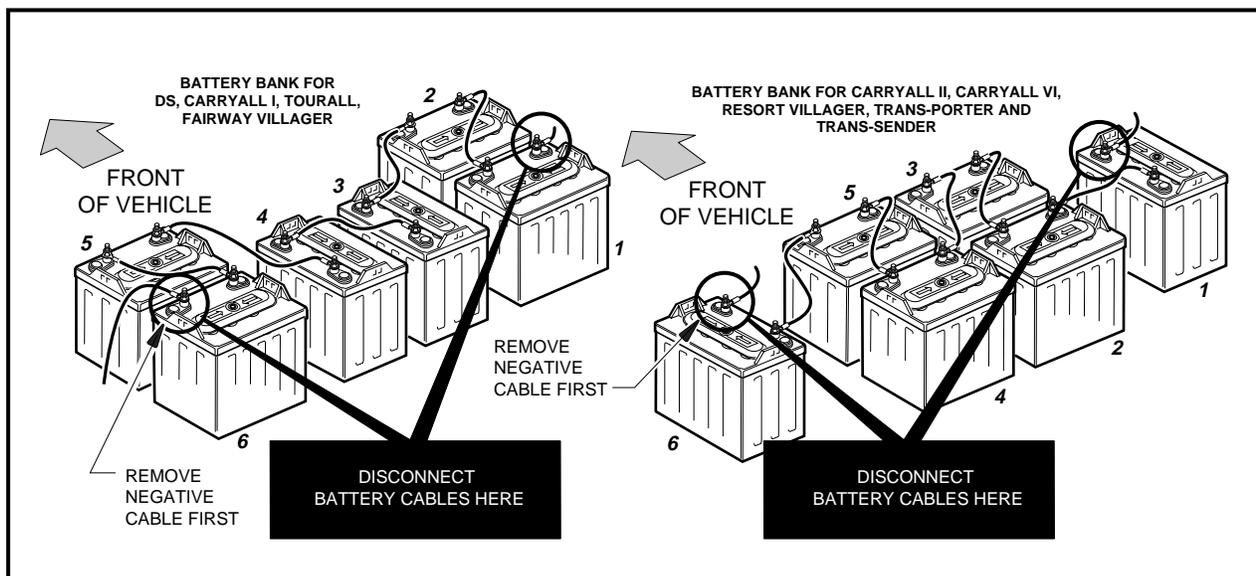

Figure 13-5 PowerDrive Battery Configuration
- TO AVOID UNINTENTIONALLY STARTING THE VEHICLE, DISCONNECT BATTERIES AS SHOWN IN **FIGURE 13-5, PAGE 13-4**. DISCHARGE THE CONTROLLER AS FOLLOWS:
1. Before removing batteries, note the orientation of the batteries and the connecting wires. Disconnect the batteries and discharge the controller as described in the WARNING on page 13-1. Then remove remaining wires and batteries. **See Figure 13-5, Page 13-4 for PowerDrive System 48 vehicle battery wiring.**
5. Install batteries in the proper orientation (**Figure 13-5, Page 13-4**). Install battery hold-downs. The hold-downs should be tight enough so batteries do not move while vehicle is in motion, but not so tight as to crack or buckle battery case. Tighten to 40 in.lb (4.5 N-m), alternating between hold-down bolts.
6. Install wires in proper sequence (**Figure 13-5, Page 13-4**). Install black wire to negative post of battery No. 6 last. Make sure all connections are tight. Tighten to 110 in.lb (12.4 N-m). Coat all terminals with Battery Protector Spray (CLUB CAR Part No.1014305) to minimize future corrosion.
When the batteries are fully charged, disconnect the charger DC plug. Wait 20 to 30 seconds and reconnect the DC plug to restart the charger. After 5 minutes, use a multimeter to check and record the voltage of the battery set as well as the individual batteries. Set the meter to 200 volts DC. Place the red (+) probe at the positive post of battery No. 1 and the black (-) probe at the negative post of battery No. 6 (**Figure 13-5, Page 13-4**). Record reading. Then set multimeter to 20 volts DC and place the red (+) probe at the positive terminal and the black (-) probe at the negative terminal of each battery. Record the readings.